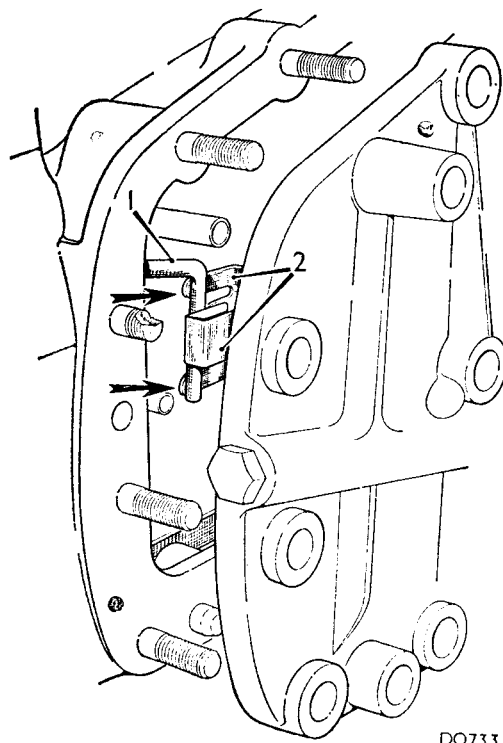

Fig. Fa.21
41. Refit the auxiliary pump and governor assembly and engage the valve block linkage with the later-type governor unit as shown in Fig. Fa.21, also ensuring correct alignment with the oil pipes and the forward shaft. The plastic sleeve fitted over the rings on the shaft is for assembly purposes, and will become safely displaced along the forward clutch shaft. Tighten the securing nuts to the torque figure given in 'GENERAL DATA'.